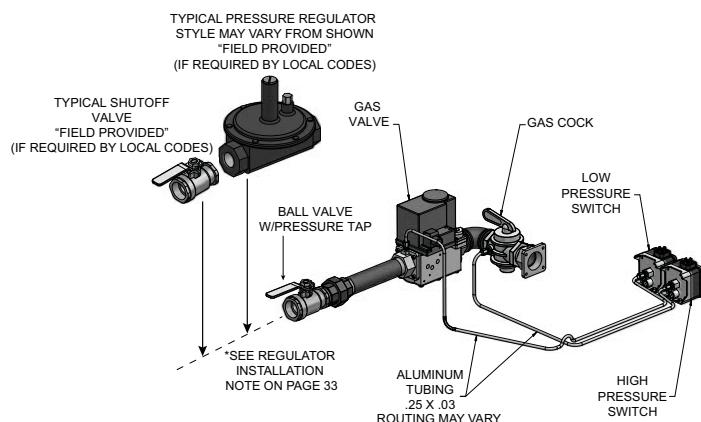

Figure 3-3A VF 500 - 1000 High & Low Gas Pressure Switches
3. Figures 3-3A and 3-3B on page 30 show piping connections for high and low gas pressure switches for respective VF Series models.